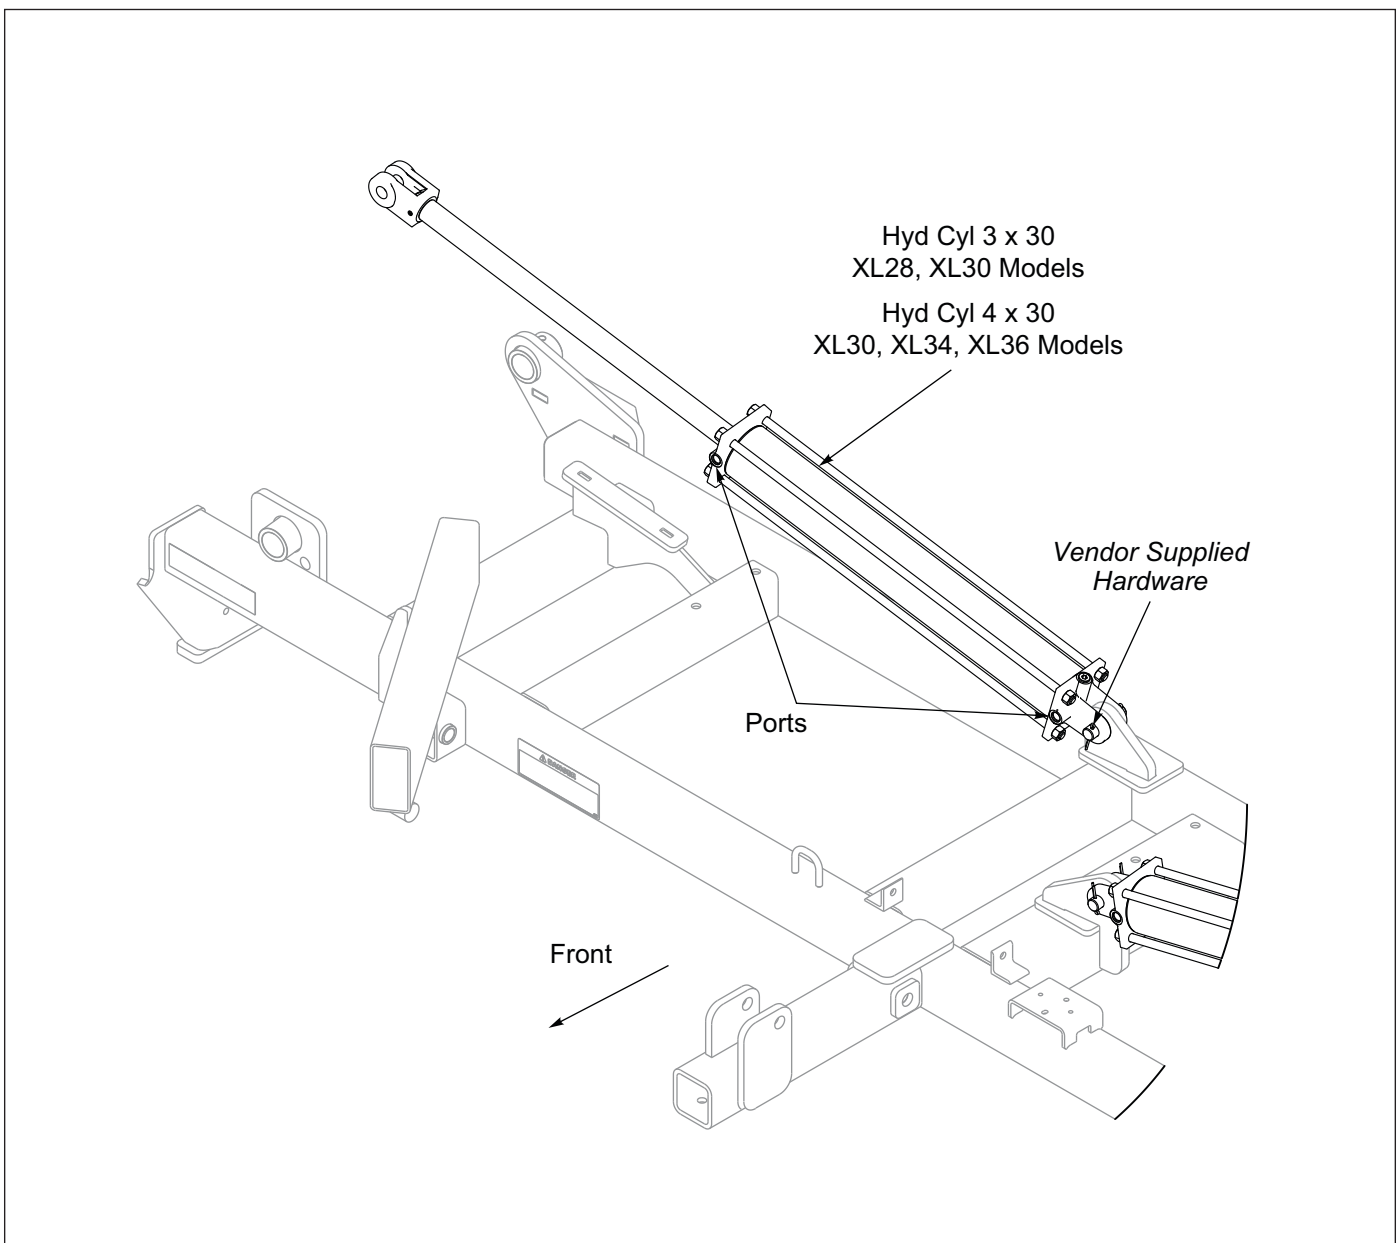

Figure 2-9: Wing Cylinder Installation
1. Install the Wing Fold Hydraulic Cylinders base end to the center frame lugs with ports facing the front of machine using the vendor supplied hardware. **See Figure 2-9.**